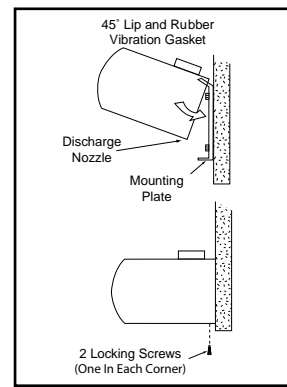

Figure 5
1. Raise the unit over the door (air discharge nozzle facing down) and on to the mounting plate. First, tilt the unit upward matching the top recessed edge of the unit to the top 45° angled lip on the mounting plate. **See Figure 5.**
3. After the unit is securely attached to the mounting plate, re-install the two (2) locking screws at the bottom corners. **See Figure 5.**